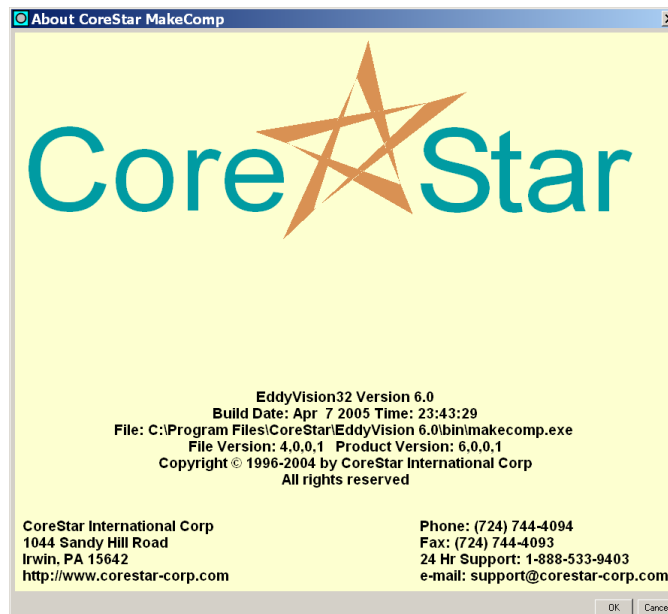

Figure 20. About Dialog
- o **Help | About MakeComp** displays the **About** dialog shown in Figure 20. This dialog includes software version and technical support information.